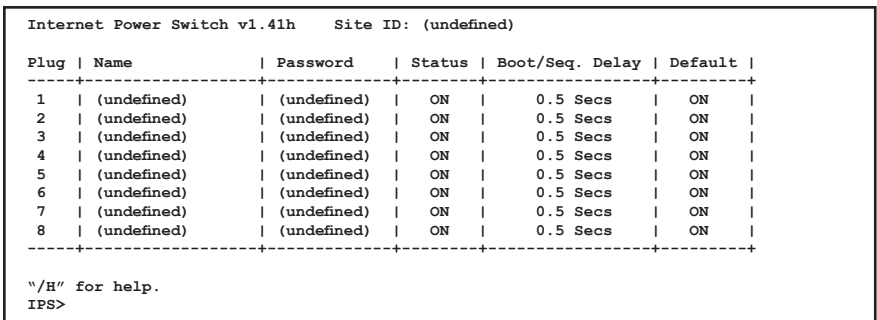

Figure 3.2: Plug Status Screen - Text Interface (Model IPS-800-D20 Shown)
- i. **Via Telnet:** Telnet to the IPS's default IP address (192.168.168.168). The Plug Status Screen (Figure 3.2) should be displayed.
- ii. **Via Local PC:** Start your communications program (e.g., Hyperterminal) and then press **[Enter]**. The Plug Status Screen should be displayed as shown in Figure 3.2. The default communications parameters for the Console Port are 9600 bps, No Parity, 8 data bits, One stop bit.
- iii. **Via Modem:** Use your communications program to dial the number for the phone line which is connected to your external modem. The Plug Status Screen should be displayed as shown in Figure 3.2. Note that in order to communicate with the unit via modem, you must first access the command mode via Network or Local PC, and use the Serial Parameters Menu to set the Port Mode to "Modem."